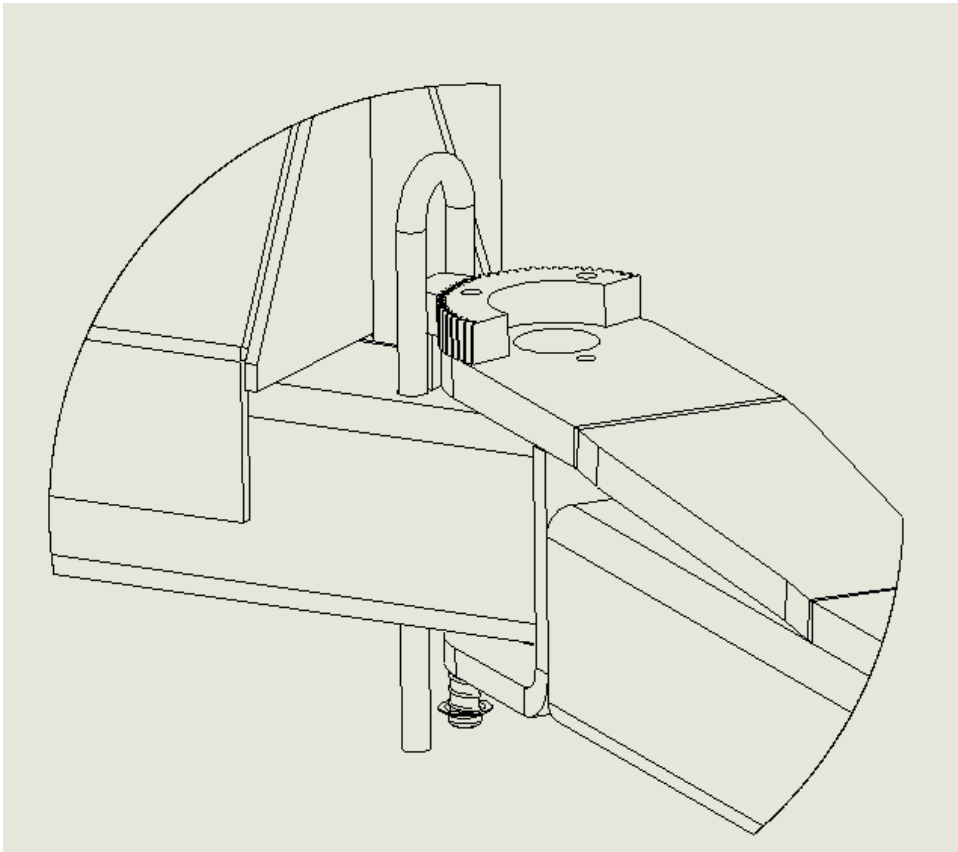

Figure 8 – Arm Restraint Installation
1. Refer to **Figure 8** - arm restraint installation.